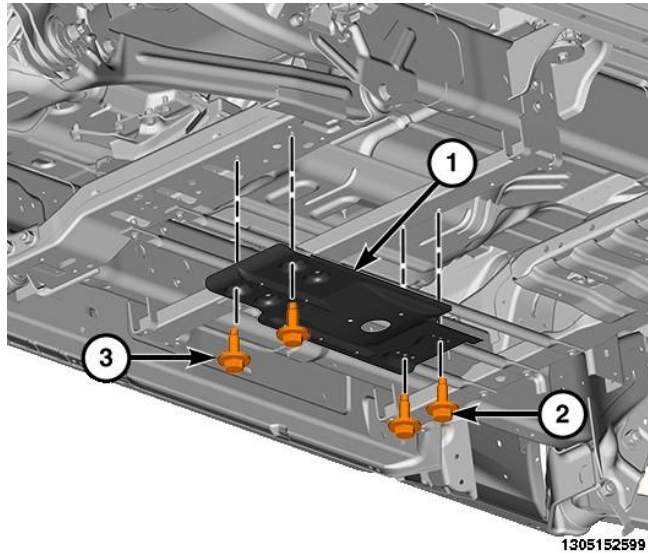

Figure 4 – Skid Plate
6. If equipped, remove and **SAVE** the skid plate bolts (2) (Figure 4).
7. If equipped, remove and **SAVE** the skid plate bolts (3) then remove and **SAVE** the skid plate (1) (Figure 4).
34. If equipped, position the skid plate (1) to the vehicle then install the skid plate bolts (2, 3). Tighten the transmission crossmember bolts (3) to 37 N·m (27 ft. lbs.) and the skid plate crossmember bolts (2) to 16 N·m (12 ft. lbs.) (Figure 4).